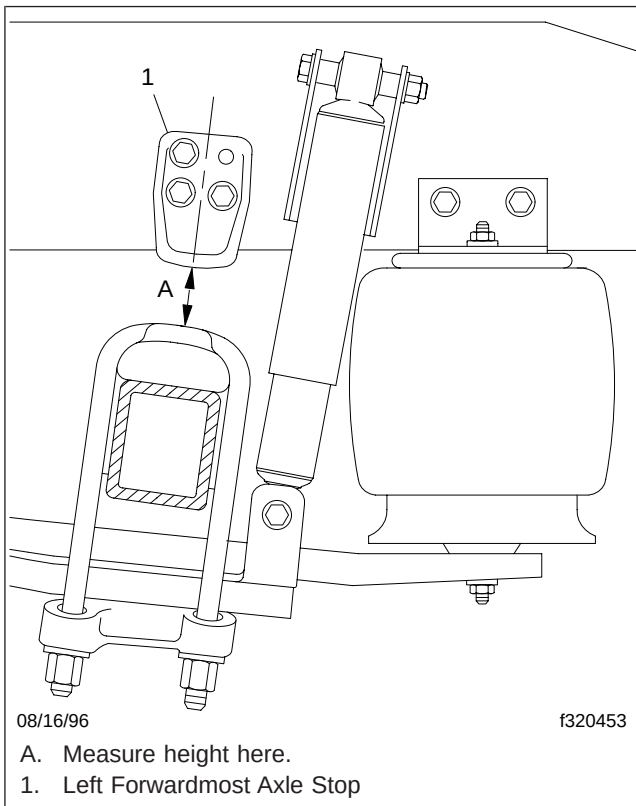

Fig. 6, AirLiner Axle Stop Measurement
4. On single-drive rear axle configurations, measure the distance from the bottom of the left axle stop to the top of the U-bolt pad. On tandem (dual-drive) rear axle configurations, measure the distance from the bottom of the forwardmost left axle stop to the top of the axle U-bolt pad. See Fig. 6, Ref. A. The correct distance for single and dual-drive rear axles is between 2-3/8 inches and 2-7/8 inches (60 to 73 mm).